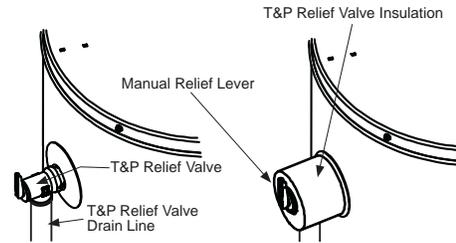

FIGURE 15.
1. Locate the temperature and pressure relief valve on the water heater (also known as a T&P relief valve). See Figure 15.
3. Spread the slit open and fit the insulation over the T&P relief valve. See Figure 15. Apply gentle pressure to the insulation to ensure that it is fully seated on the T&P Relief Valve. Once seated, secure the insulation with duct tape, electrical tape, or equivalent. **IMPORTANT:** The insulation and tape must not block the discharge opening or hinder access to the manual relief lever (Figure 15). Ensure a discharge pipe is installed into the T&P valve discharge opening per the instructions in this manual.